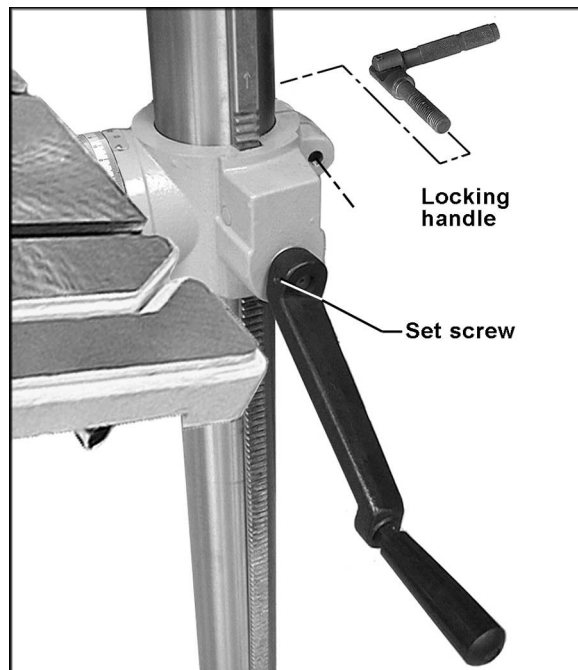

Figure 4
- Slide the large handle onto the spindle of the table bracket (Figure 4), and tighten the set screw in the handle with a 3mm hex wrench. Crank the handle counterclockwise to lower the table bracket down the column.
- Screw the locking handle into the table bracket (Figure 4) and tighten the locking handle to secure the table bracket's position on the column.
Loosen the column locking handle (see Figure 4). Turn large handle to raise or lower the table along the column rack. Re-tighten the column locking handle before attempting to drill.
- Loosen the column locking handle (see Figure 4).